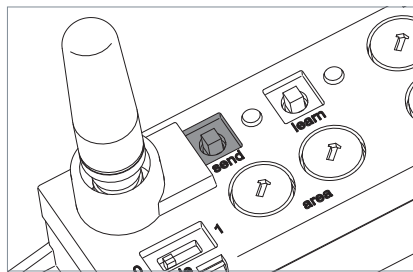

Fig. 22: "send" key.
- Press the "send" key and keep it depressed for at least five seconds, see Fig. 22.